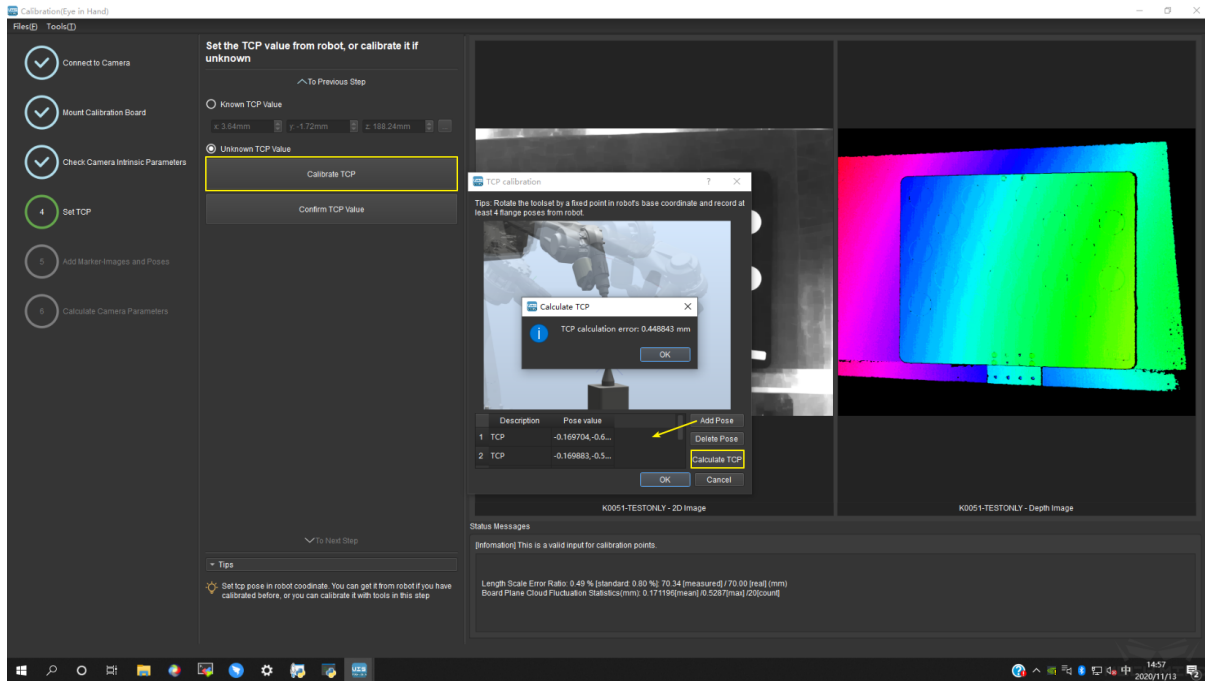

Figure 13 TCP Calculation Result
3. After adding 4 poses, click *Calculate TCP* to obtain the position of TCP. The error of calculation is shown in the pop-up window. As shown in *Figure 13* below.